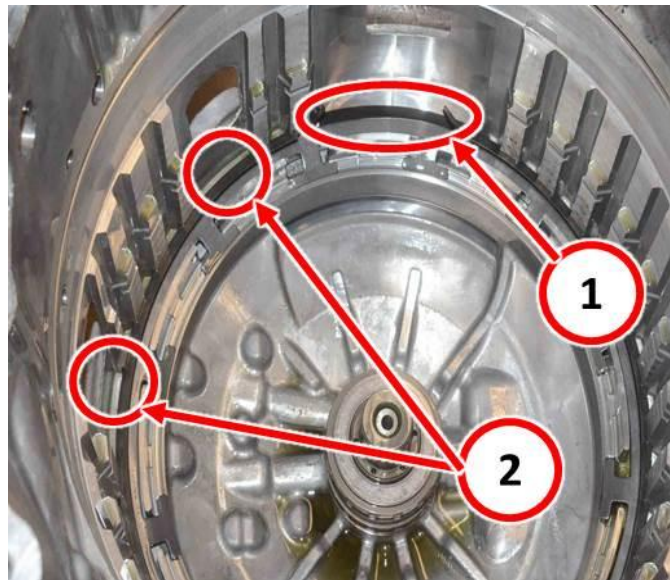

Fig. 10 Snap Ring Orientation
34. Install the new snap ring with the opening rotated 90 degrees counter clockwise from the original snap ring location. See (Fig. 10) and (Fig. 11).